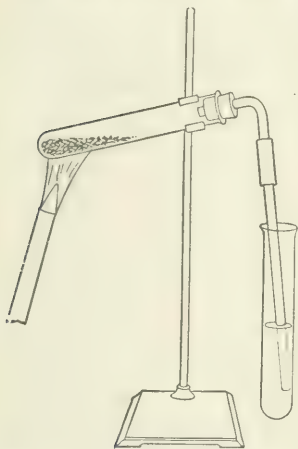

Fig. 66. Reducing copper oxide with carbon.
**c. Uses.** The most important chemical use of charcoal (or coke) is as a reducing agent. Mix intimately about 5 g. of copper oxide ( $\text{CuO}$ ) with 1 g. of powdered wood charcoal in a mortar. By means of a folded strip of paper slide the mixture into a hard-glass test tube (ignition tube) and fit the tube with a 1-hole stopper carrying a delivery tube. Arrange the apparatus as shown in figure 66 so that the gas